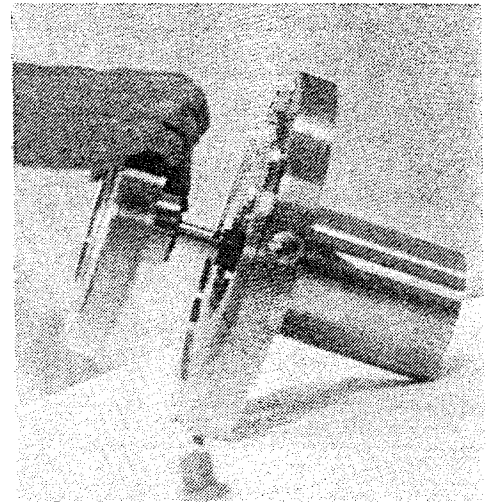

Figure 22
10. Carefully slide off the casing cover. Since the sleeve (Item 43) is loose it may come out with the casing cover. Be prepared to hold the sleeve as the casing cover clears the shaft [Fig. 22].